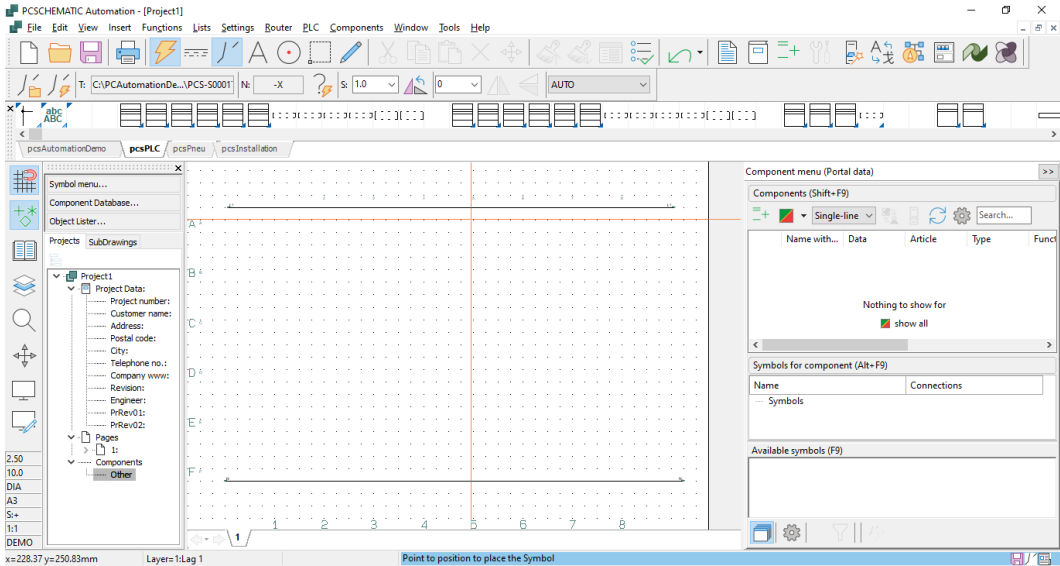

Figure 6.46 – Line 1 (L1) and a neutral line (N) drawn in the work area using the line tool
12. Start by drawing line 1 (L1) and a neutral line (N) using the line tool. You should have what is shown in *Figure 6.46* if you get it right: